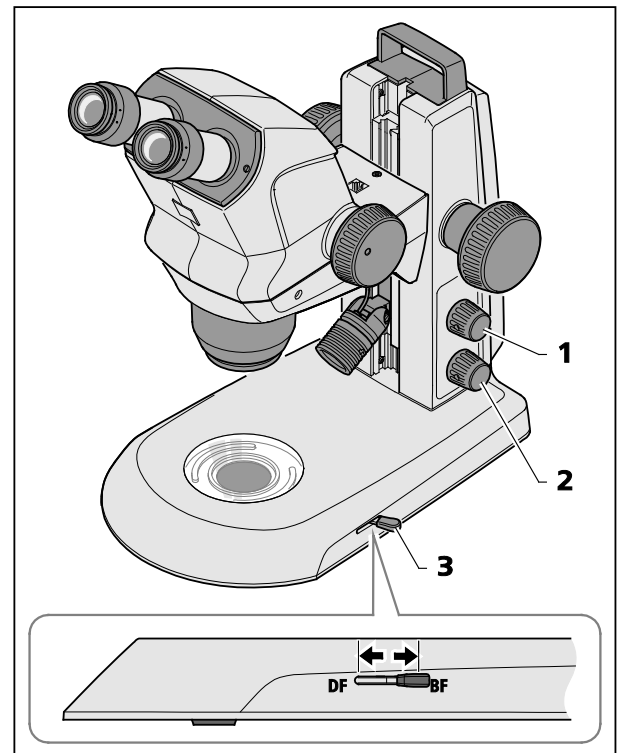

Fig. 20 Transmitted-light module in stand K EDU
- Switch transmitted-light illumination ON by pressing the lower knob (Fig. 20/2).
- Change over by adjusting the lever (Fig. 20/3) between the bright field and the dark field illumination.
- Front position: Dark field (DF)
- Rear position: Bright field (BF)
Press the upper button (Fig. 20/1) to blend in reflected light (see Section 4.2 on page 30).